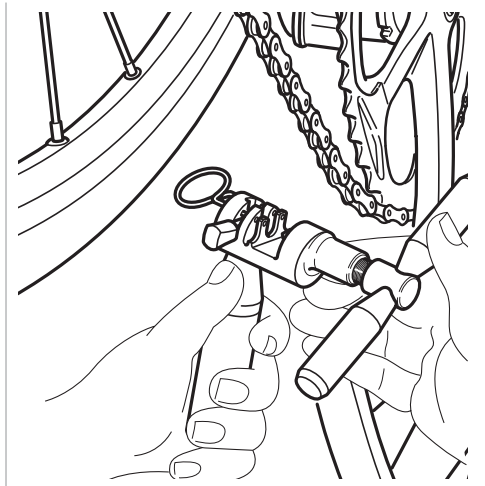

Fig.18
- Position the tool **UT-CN400 (12s) / UT-CN300 (11s / 12s)** as indicated in Fig. 18 (from the outside of the chain towards the inside).